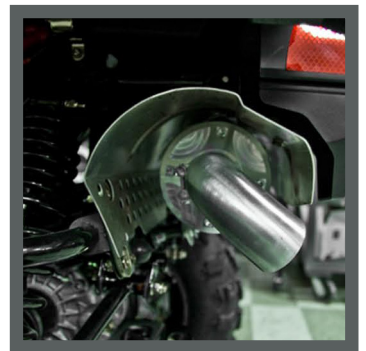

Figure 2
4. Reinstall the **Springs**. To keep the mud out of your **Silencer**, use the supplied **Adapter** and **Turn Down/Out Tip**. (See Figure 2)